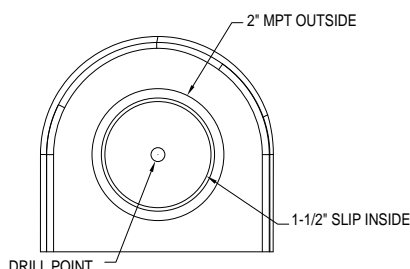

Figure 5.2
**Note:** Adding other bathroom fixtures - The Qwik Jon® Ultima is designed to accept additional bathroom fixtures utilizing the two side inlets. These inlets can be attached via the 2" MPT (outside diameter) or the 1 1/2" slip (inside diameter). These inlets must have the inner portion drilled out using a 1 3/4" hole saw (see Figure 5.2). This is to ensure there is no leakage problems from inlets not in use. When utilizing side inlets, install a check valve on the incoming line.